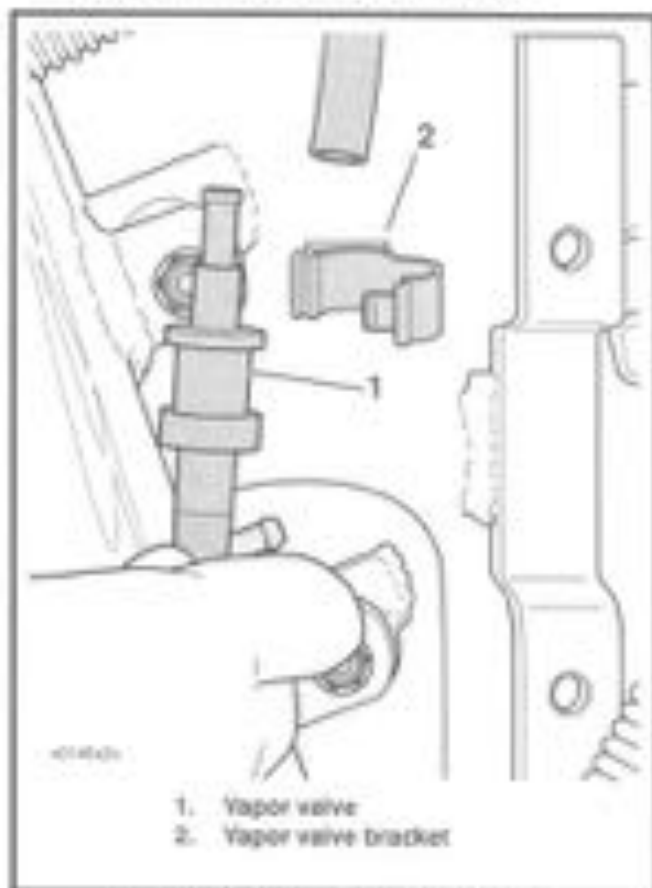

Figure 3-43. Vapor Valve and Bracket
7. See Figure 3-43. Remove vapor valve assembly from inboard side of oil tank. Insert thin blade of screwdriver into slot of vapor valve bracket. Turn screwdriver gently to unsnap clip. Remove vapor valve body from bracket. Remove hose connection from neck of vapor valve. (On California models, remove carbon canister-to-carburetor purge hose from groove of vapor valve bracket.)